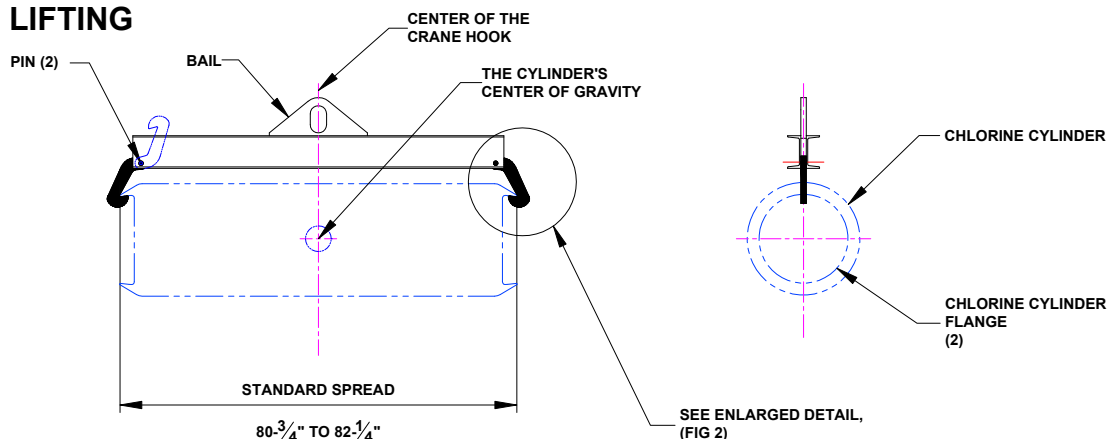

Figure 1
4. **See Figure 1**, Prevent tilting of the Model 28 Chlorine Cylinder Lifting Beam and the load, by positioning the load's center of gravity in-line with the center of the crane hook.
6. **See Figure 1 & 2**, the Lifting Beam is level/horizontal and both of the Chlorine Cylinder flanges are securely resting on the full length of both hook arms, proper lifting.